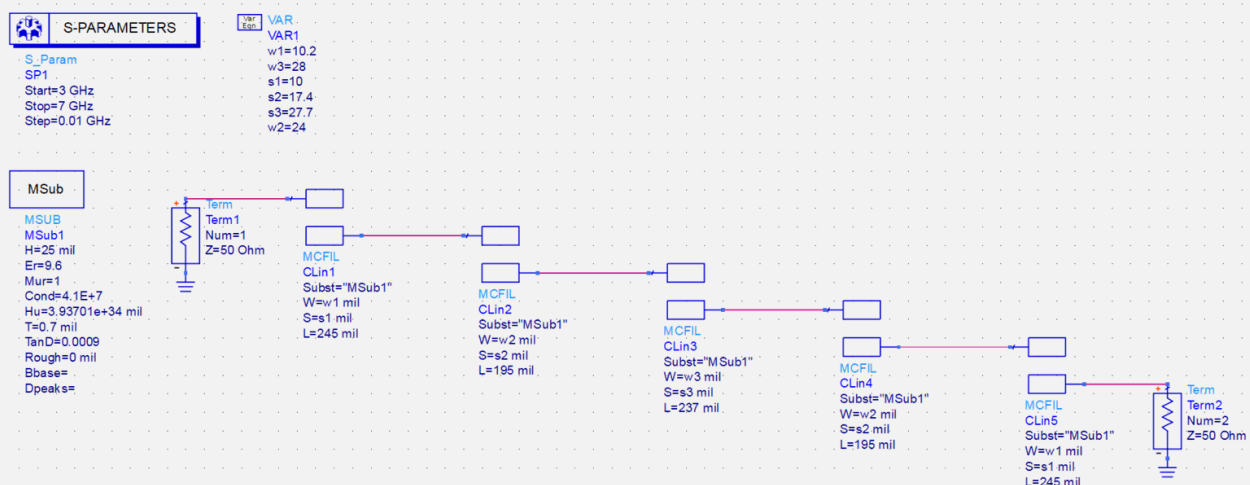

Figure 2. Schematic of Microstrip Bandpass Filter
2. Arrange the components as shown in Figure 2.